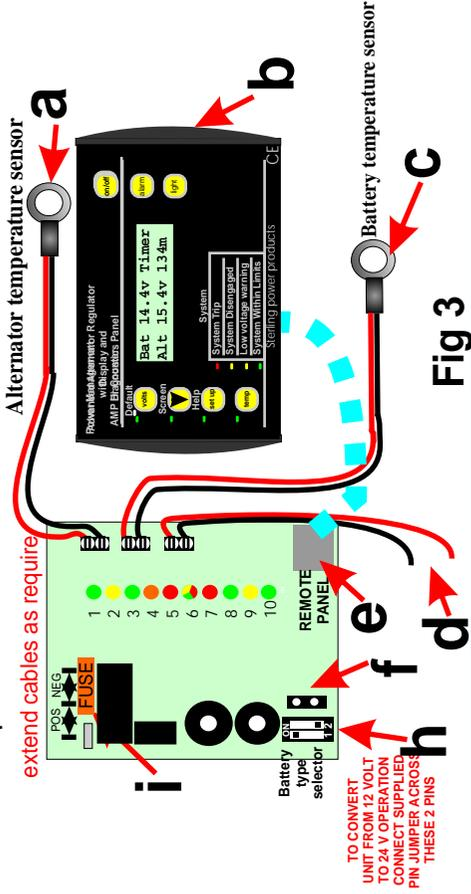

Fig 3
**UNIVERSAL DIGITAL ADVANCED REGULATOR FITTING INSTRUCTIONS.** This new unit is suitable for 12 and 24 volt operation, obviously to set this unit up as 24 volt on a 12 volt system, would be catastrophic and all effort is made to ensure this does not happen. The unit comes preset to 12 volt operation as standard, a small electrical bridge must be made in order for the 24V function to be operated. ( see fig 3 code f , for the bridge position )This bridge is not supplied in the regulator box but is Sellotaped to the centre of these instructions ensuring that it cannot accidentally be installed. For 24V installation please fit the bridge as shown on the diagram **now !!**.
2) Remove the Regulator lid, inside you will see the circuit board with a 2 pin dip switch and a large fuse: See **fig 3** , **i** = large fuse and **h** = dip switch